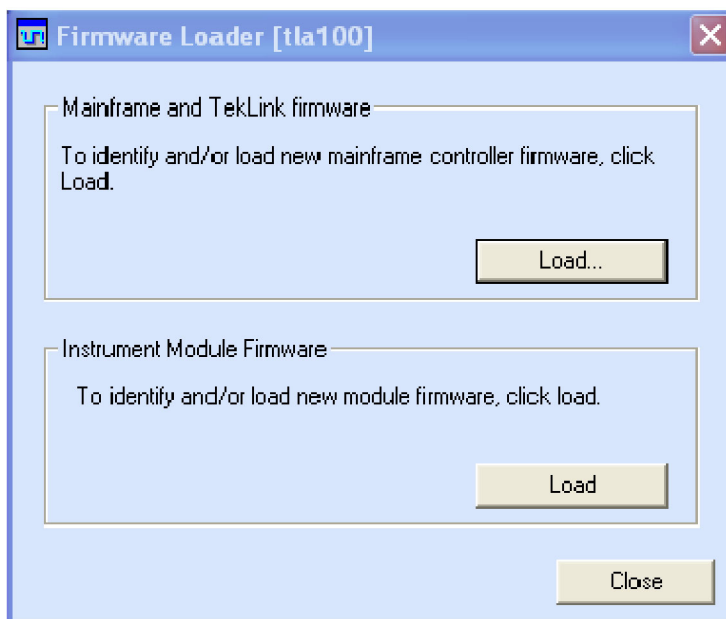

Figure 21: Firmware Loader dialog box
- When the network search is complete, click on the IP address of the TLA7016 listed in the Connection window and click Connect. The Firmware Loader dialog box appears. (See Figure 21 on page 22.)